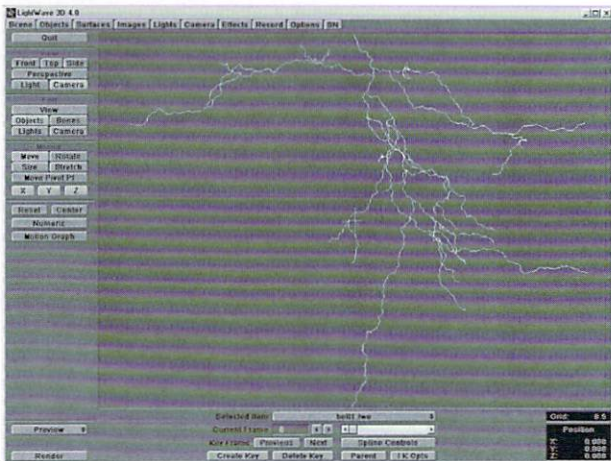

Figure 3: A mortal's-eye view of impending doom.
- Move the Camera so that the lightning bolt fills the frame. Lower the camera position so that you're looking up to the lightning bolt (Figure 3). Create a keyframe.